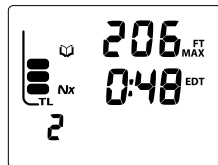

Fig. 51 - LOG DATA 2
**LOG DATA 2**, information includes (Fig. 51):